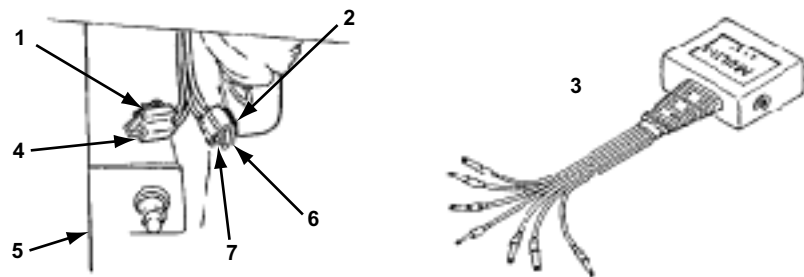

Figure 7-11 1992–94 1.0L Metro transmission connector and adapter
- Connect the MULTI-1 adapter as shown in Figure 7-11.